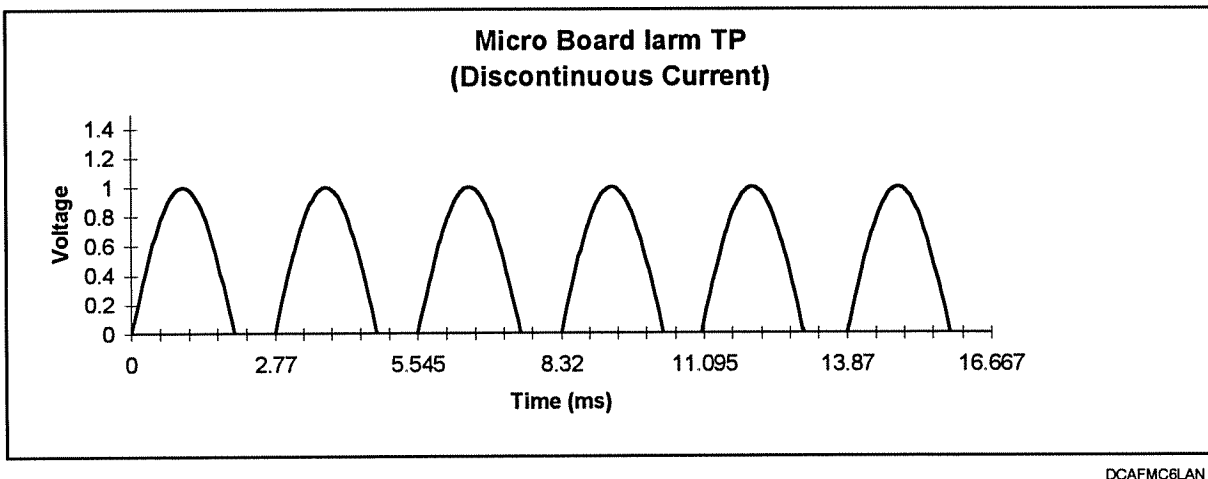

FIGURE 3-6. MICRO BOARD Iarm TP
- 14) With an observable current flow at a burden resistor, move the scope probe to measure across the Iarm sense and common points on the bottom left of the microprocessor board. If all wiring and CT polarities are correct, the waveform should resemble that of Figure 3-6. If you observe this waveform, go to step 24, or continue on to step 15 if you **do not** observe this waveform.
- 16) If the voltage observed on the scope is negative, instead of the positive pulses shown in Figure 3-6, reverse all CT polarities. If the CT leads are difficult to reach, switch the wires for all CTs at J1 of the SCR Firing Adapter.